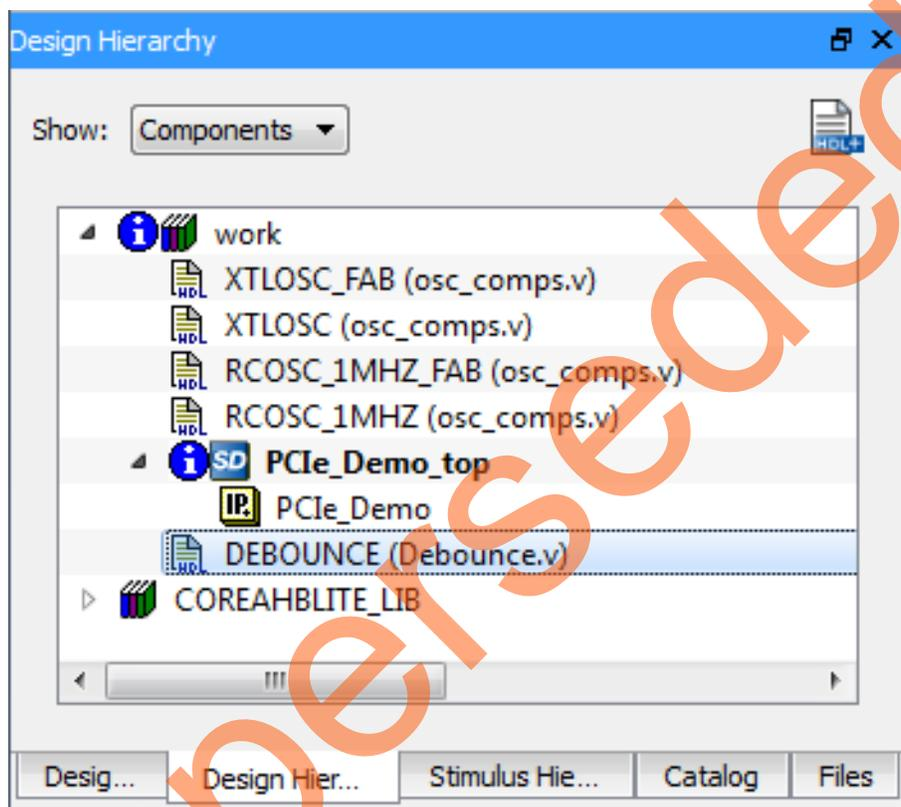

Figure 15 • DEBOUNCE Component in Design Hierarchy Window
2. Browse to the *M2GL_PCIE_Control_Plane_11p6_DF* Source Files file location for `Debounce.v` or `Debounce.vhd` file in the design files folder. Figure 15 shows the **DEBOUNCE** component in the **Design Hierarchy** window.